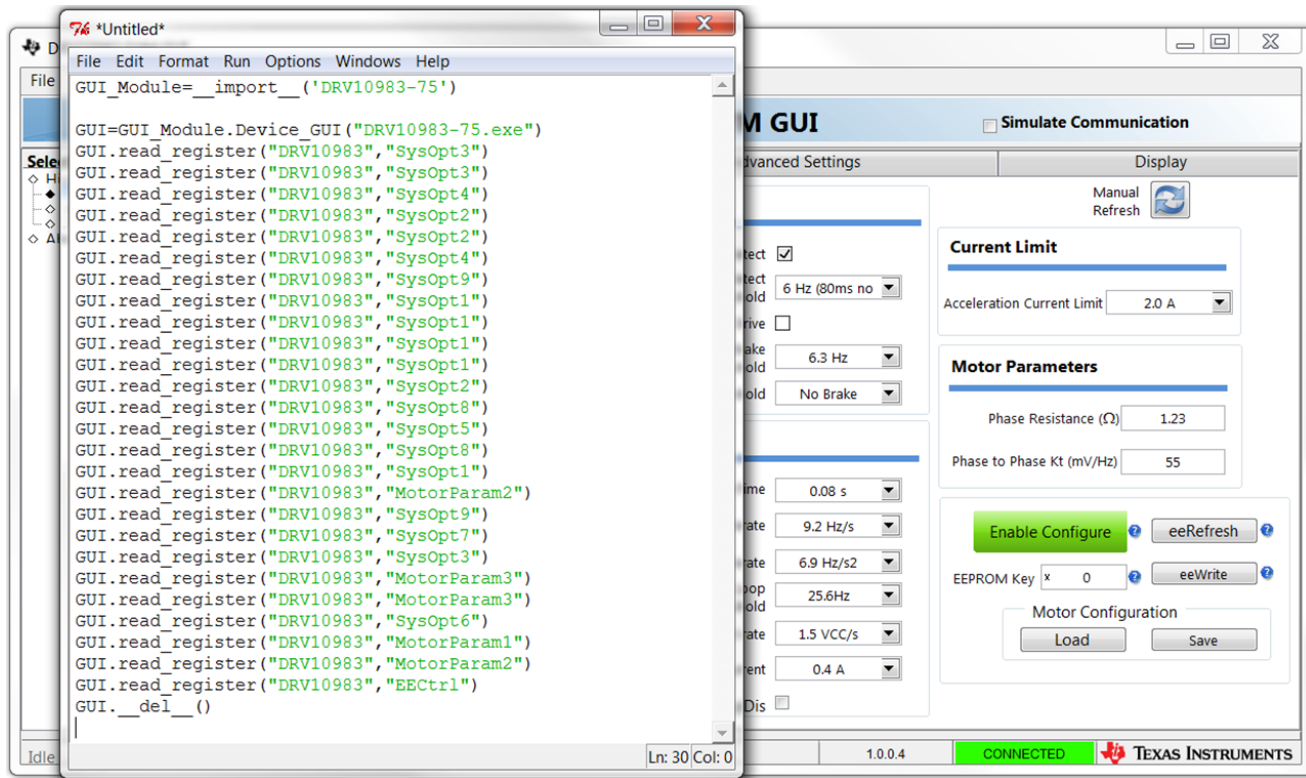

Figure 44. Stop Recording
- The Launch Window remains after the recording has been stopped, as shown in Figure 44. It can be closed with or without saving.